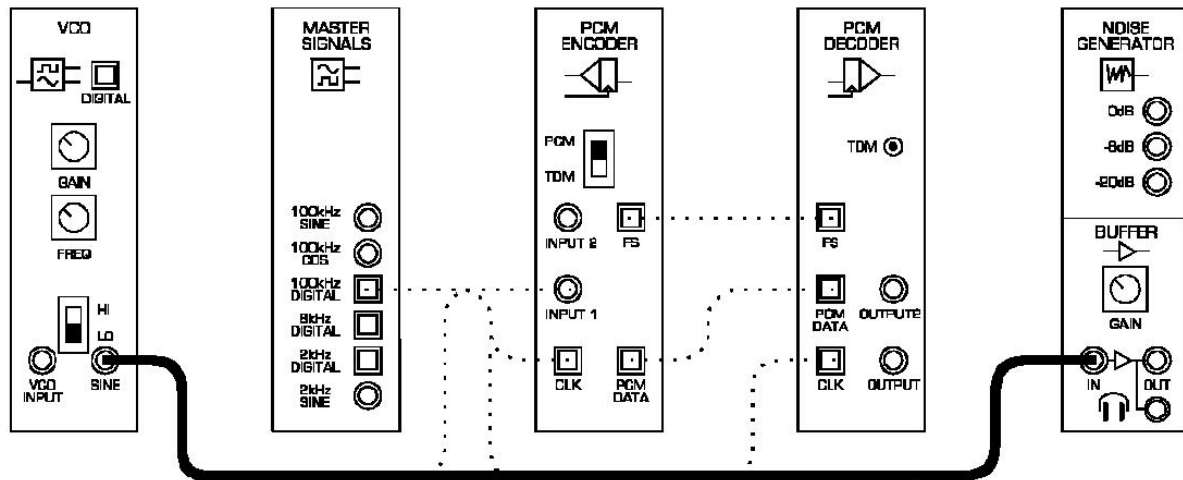

Figure 10:
11. Modify the set-up as shown in Figure 10, again leaving the scope's connections as they are. Compare the sound of the two signals. You should notice that they're similar but clearly different.
10. Disconnect the Buffer module's lead where it plugs to the PCM Decoder module's output and connect it to the VCO module's output (like you did when wiring Figure 10).